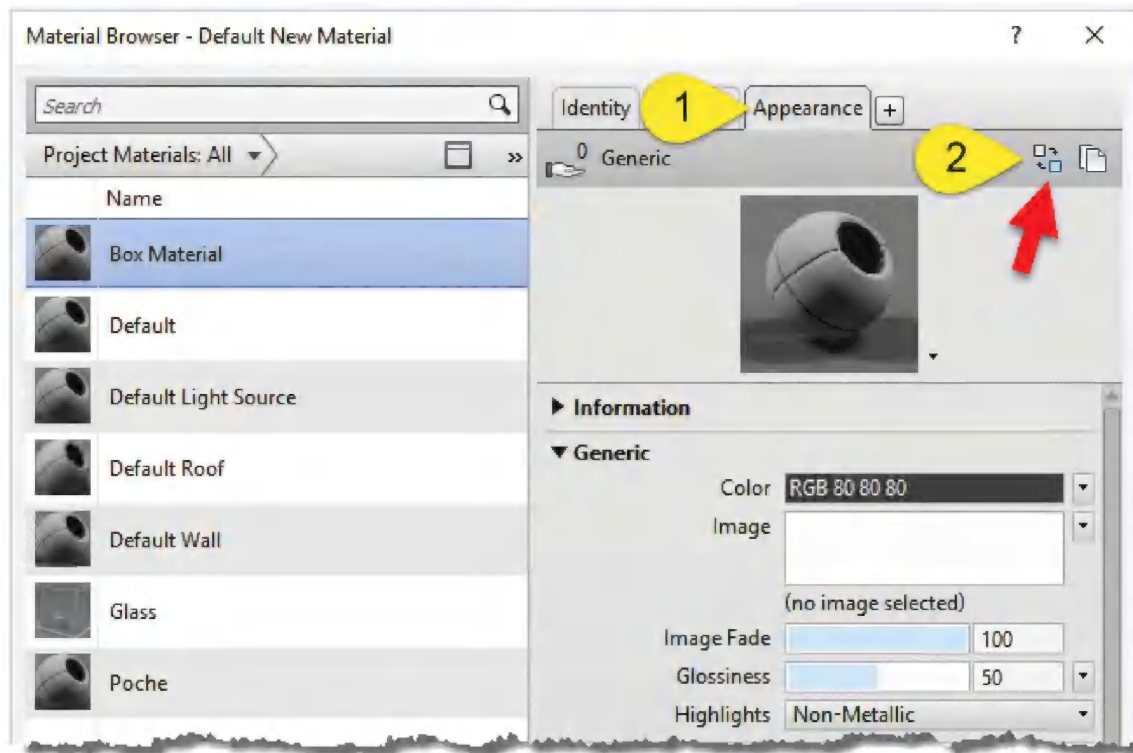

FIGURE 15-4.11 Selecting rendering appearance
22. Click to add an **Appearance** asset (Figure 15-4.11).